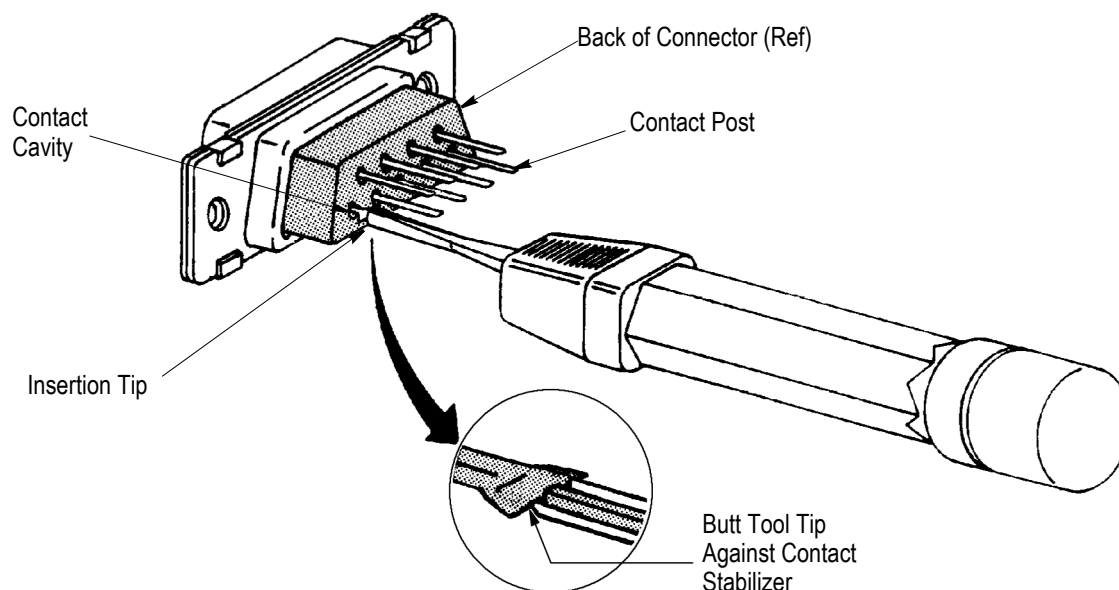

Figure 5
4.3. Inserting A Posted Contact (Figure 5)
2. Position the tip over the contact post. Move the tool along the post until the tip butts against the contact stabilizer. Align the tip on the stabilizer as shown in Figure 5.